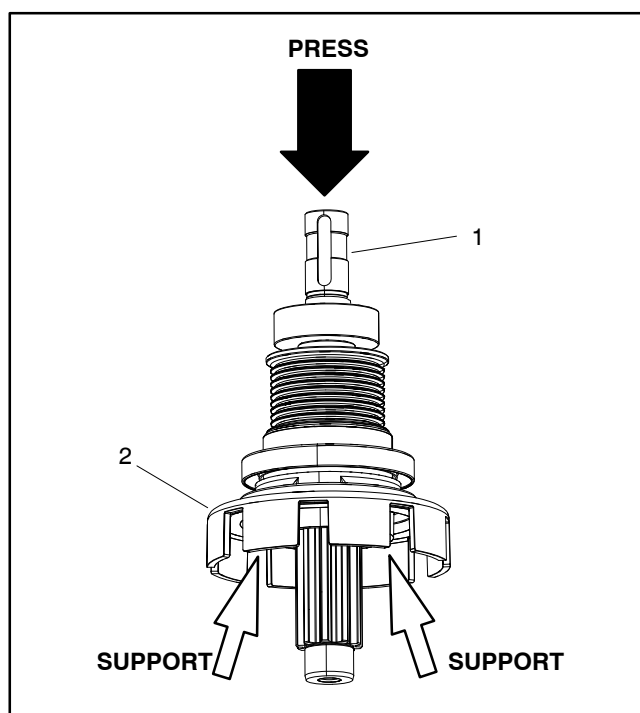

Figure 53
1. To allow removal of flange head screw (item 26) that secures clutch assembly to shaft, carefully secure end of clutch shaft in vise. Use a vise with soft jaws to prevent damage to clutch shaft.
2. To prevent compression spring (item 16) extension during flange head screw removal, use a suitable hand clamp to keep pressure plate (item 20) and clutch pulley housing (item 8) secured and spring compressed.
3. Remove flange head screw (item 26) and washer that secure clutch shaft assembly.
4. Slide clutch cam (item 24) with bearing from end of clutch shaft.
5. Carefully release and remove hand clamp from pressure plate (item 20) and clutch pulley housing (item 8) to allow compression spring to extend.
6. Remove clutch actuator (item 23), clutch pack (item 17) and pressure plate (item 20) assembly from clutch shaft.
7. Slide compression spring (item 16) from clutch shaft.
8. Remove retaining ring (item 1), flat washer (item 2), wave spring (item 3) and flocked seal (item 4) from clutch shaft. Note orientation of flocked seal for assembly purposes.
9. Remove retaining ring (item 13) that secures ball bearing in clutch pulley.
10. Remove clutch shaft from bearings in clutch pulley (Fig. 53):
C. Remove bearings (items 5 and 7) and bearing spacer (item 6) from upper side of pulley. Discard removed bearings.
11. Remove oil seal (item 9) from clutch pulley taking care to not damage seal bore in pulley. Note orientation of oil seal for assembly purposes. Discard removed oil seal.
12. Remove O-ring (item 11) from bearing bore in clutch pulley. Discard O-ring.
13. If necessary, remove bearing (item 12) from clutch shaft:
A. Remove retaining ring (item 10) from clutch shaft.
C. Remove bearing spacer (item 14) from clutch shaft.
14. If necessary, remove retaining ring (item 26) and then press bearing (item 25) from clutch cam. Discard removed bearing.